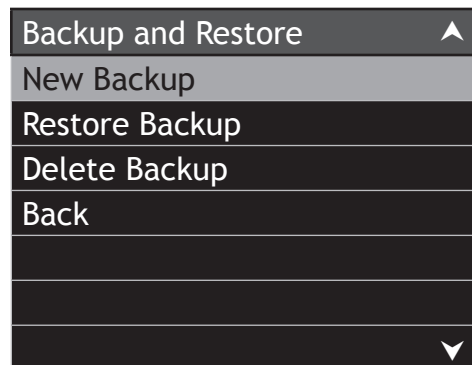

Figure 88
3. With “New Backup” highlighted press the SELECT Push-button. Refer to figure 88.